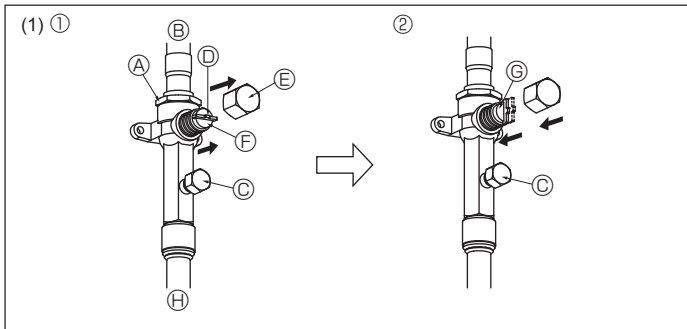
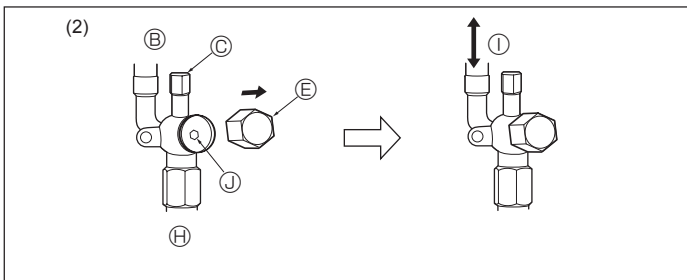

Fig. 4-10
Fig. 4-11
(1) Gas side (Fig. 4-10)
- ① Remove the cap, pull the handle toward you and rotate 1/4 turn in a counterclockwise direction to open.
- ② Make sure that the stop valve is open completely, push in the handle and rotate the cap back to its original position.
(2) Liquid side (Fig. 4-11)
- ① Remove the cap and turn the valve rod counterclockwise as far as it will go with the use of a 4 mm [3/16"] hexagonal wrench. Stop turning when it hits the stopper.
- ② Make sure that the stop valve is open completely and rotate the cap back to its original position.